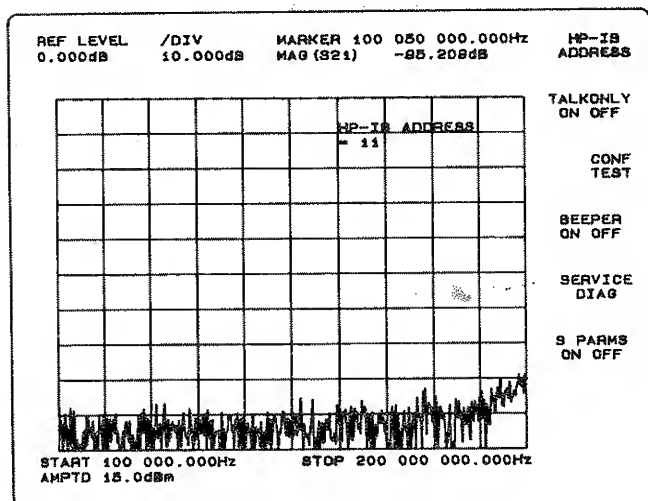

Figure 3•2
- 2 Press the "HP-IB ADDRESS" softkey (top item in the display menu). The address will appear in the entry block. See Figure 3•2.